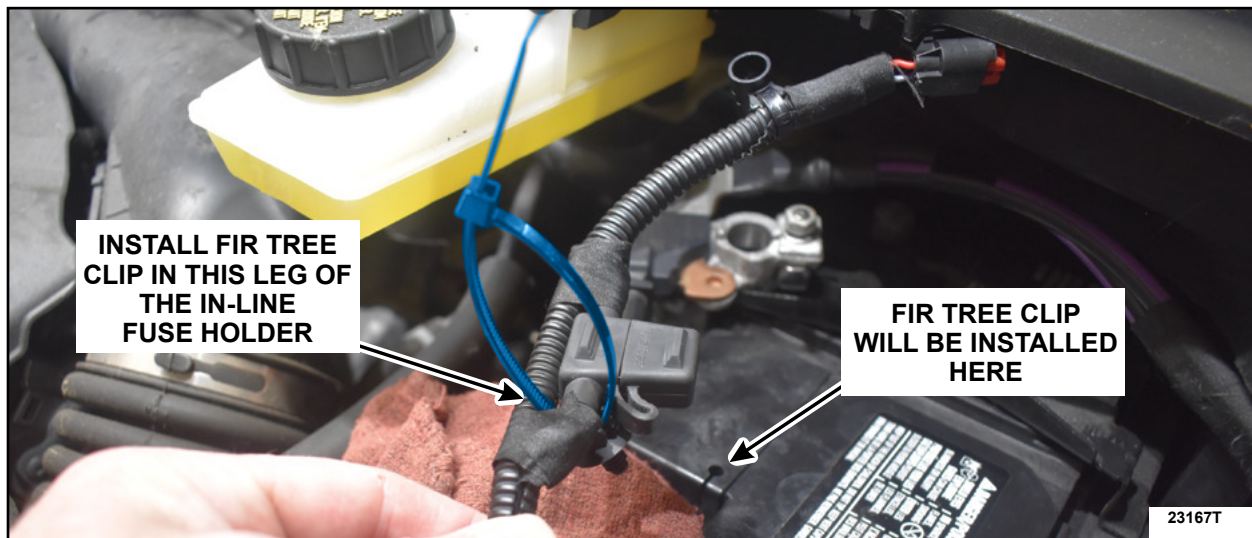

FIGURE 13
16. Using the fir tree clip provided in the parts kit, loosely install the zip tie portion through the leg of the *new* in-line fuse holder furthest away from the BMS connector as shown in Figure 13.
17. Install the fir tree clip into the top, furthest forward, inboard hole on battery as shown in Figure 13. Then, tighten the zip tie portion of the clip and cut the excess off as shown in Figure 14.